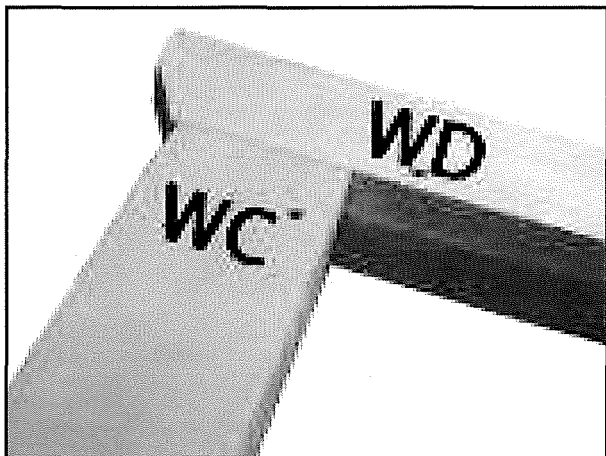

Fig A6
14. Place a **WD** part on top of a **WB** part. The **WD** part is positioned so there is an even overhang ( fig A6). Mark out and drill fix as before. But start at 100mm from the end of part **WD**.